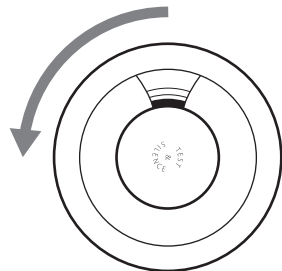

Figure 5a
- 2 Remove the mounting plate from the smoke alarm by twisting it in an anti-clockwise direction, see **Figure 5a**.